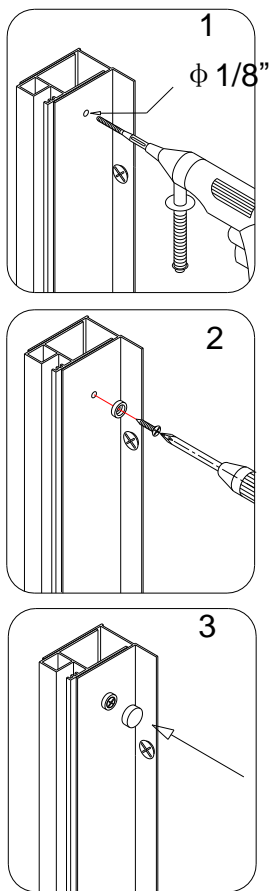

Fig 7
8. Perform the final check and adjustment of the shower assembled position on the tray. Now drill small holes in the Wall and Glass profiles and connect them together using **ST4.2x10 round head screws (12)**. ( Do not use a power screwdriver) See fig. 7 for details.